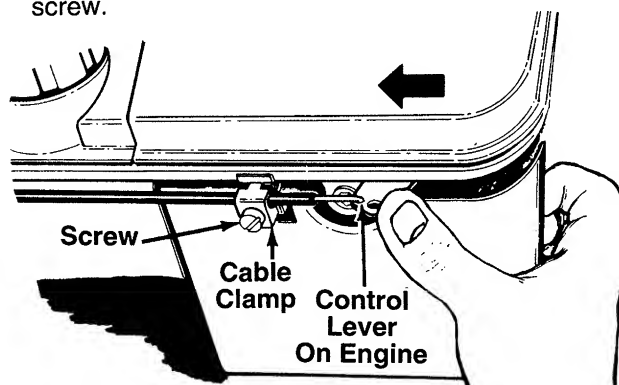

FIGURE 18A.—Quantum Engines
1. Remove the screw shown in figure 18A. Remove the cable clamp from the cable.